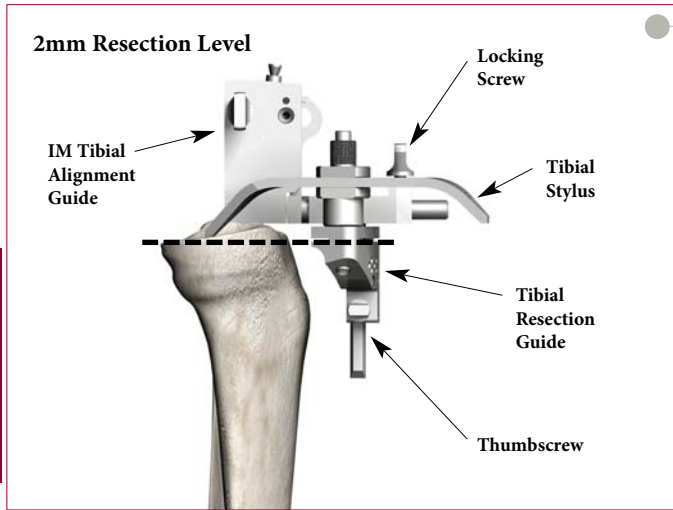

Figure 56
- ▶ The settings allow for corresponding resection of bone below the point of the stylus (i.e. the 2mm setting allows for a 2mm resection below the point of the stylus) (Figures 56 and 57).